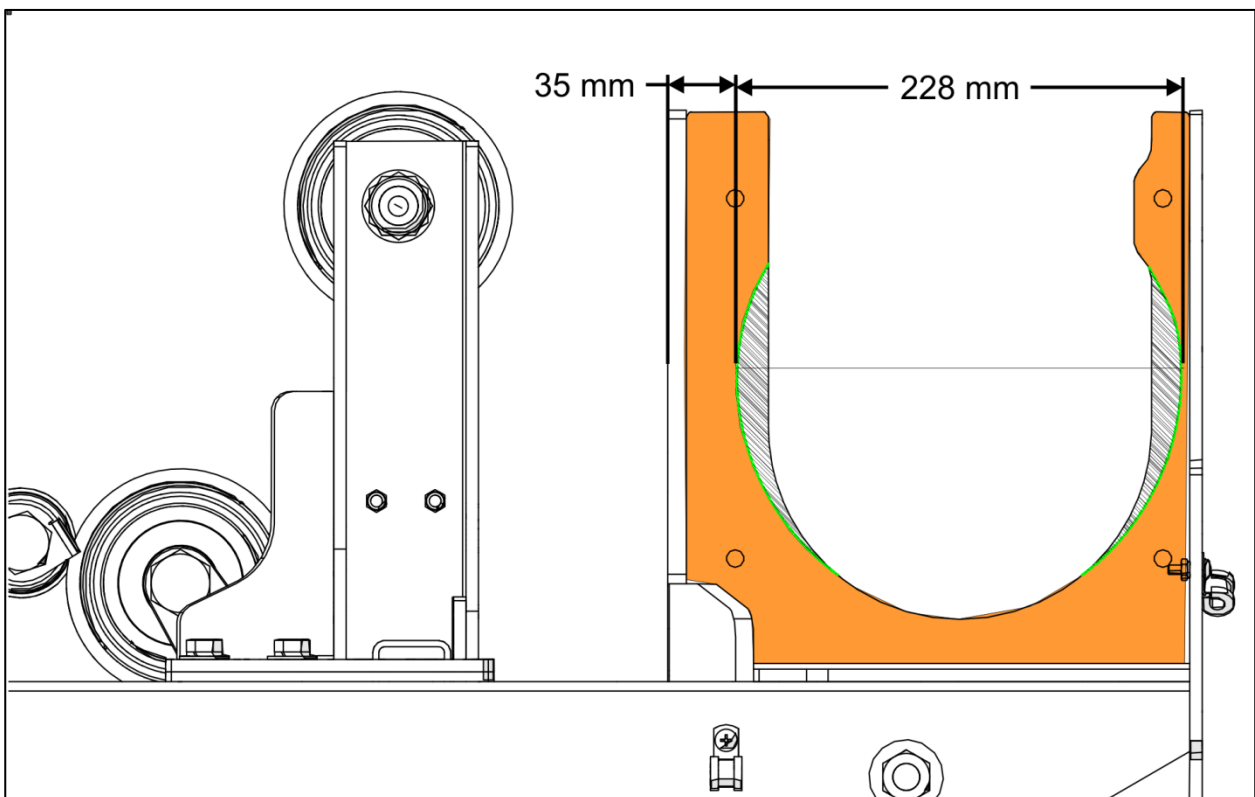

FIGURE 1: LONG FAN DRIVE SUPPORT. DIMENSIONS APPROXIMATE-
- 1.2. The mounting support opening will need to be enlarged on each side. According to dimensions in Figure 1.
- 1.7. Enlarge the opening according to Figure 1.